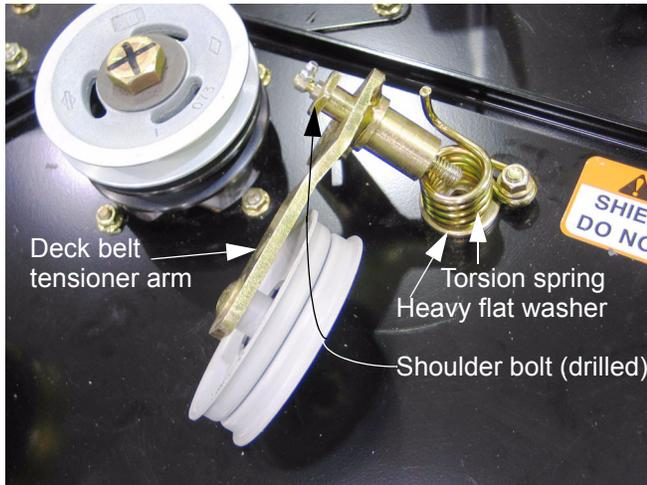

Figure 6.1
- 6.1. The deck belt tensioner idler arm can be removed using a 1" wrench on the bolt head above the deck and an 11/16" wrench to remove the nut, lock washer, and flat washer from beneath the deck. See Figure 6.1.